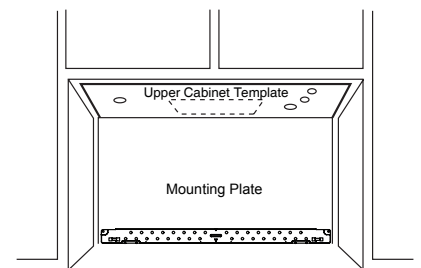

Figure 27
5. Measure the bottom of the upper cabinet frame. Trim edges A, B, and C on the upper cabinet template so that the template will fit on the bottom of the upper cabinet. If upper cabinet has a recessed frame, trim the template so it fits inside the recessed area. Align the centerline of the upper cabinet template with the centerline of the rear wall template, then securely tape or tack the upper cabinet template in place. See Figure 27.